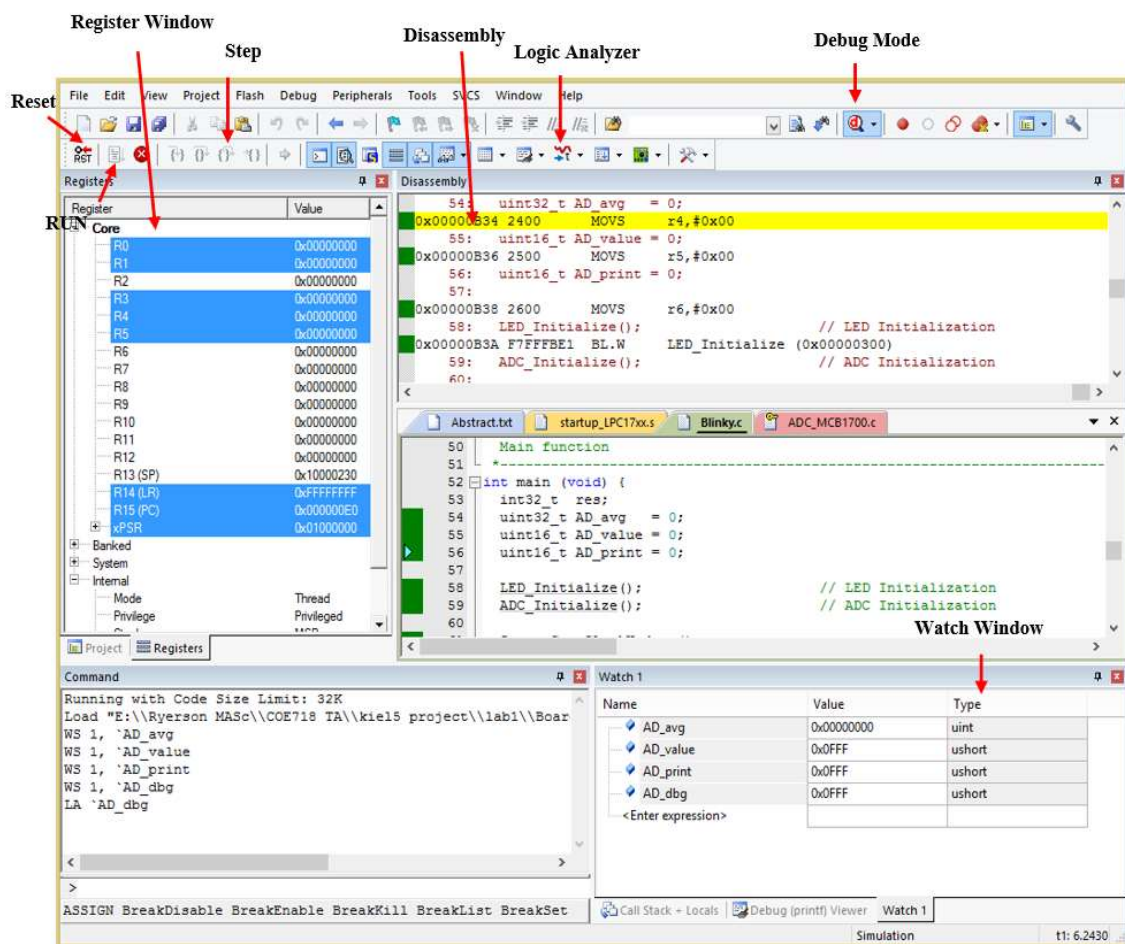

Figure 16: uVision Debug Window
Enabling printf: Project >> Options for Target 'SWO Trace'. Select the Debug tab (see Figure 16), select "Use" on the right side, and then click the Settings box. Under the Trace tab, click "Trace Enable". Ensure that the Core Clock is set to 96 MHz, and that the SWO Clock has "Autodetect" enabled. In the ITM Stimulus Ports, set Enable to 0xFFFFFFFF, and ensure that the lower port checkbox, Port 7.0 is unchecked. Click OK. In the "Options..." window, select "Use Simulator" once again. Click OK. Also notice the source code necessary in Blinky.c to support the printf function.
Enter the Debug mode by clicking on the  icon. A window will pop up displaying: "EVALUATION MODE Running with Code Size Limit:32K", Click OK and uVision will transform into new successive multiple windows, including the disassembled version of your *.c code. If you have entered the Debug mode correctly, you will see a number of windows pop up which will allow you to examine and control the execution of your code. You should observe something similar to that of Figure 16 window. The Debug mode will connect uVision to a simulation model of your program, downloading the project's image into the microcontroller's simulated memory.
- Steps - (See Figure 16) As opposed to running through the whole code, the step keys allow you to step through your code line by line, step through a function, etc.
The register window (see Figure 16) displays the contents of the CPU's register file (R0 - R15), the program status register (xPSR), the main stack pointer (MSP) and the process stack pointer (PSP). This window will automatically open when transitioning to Debug mode. These registers may be used for debugging purposes, in conjunction with the watch window, steps, and breakpoints.